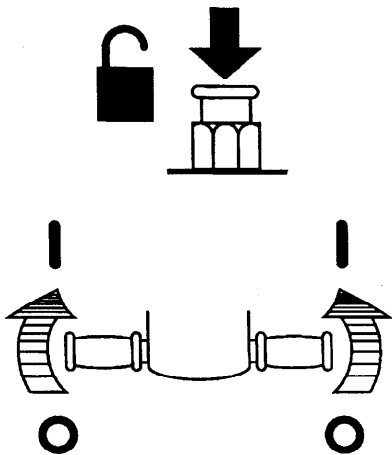

FIG. 5.
3. Start machine by pressing safety lock button and turning twist grips forward. Release thumb from safety lock button once machine starts (Fig. 5).